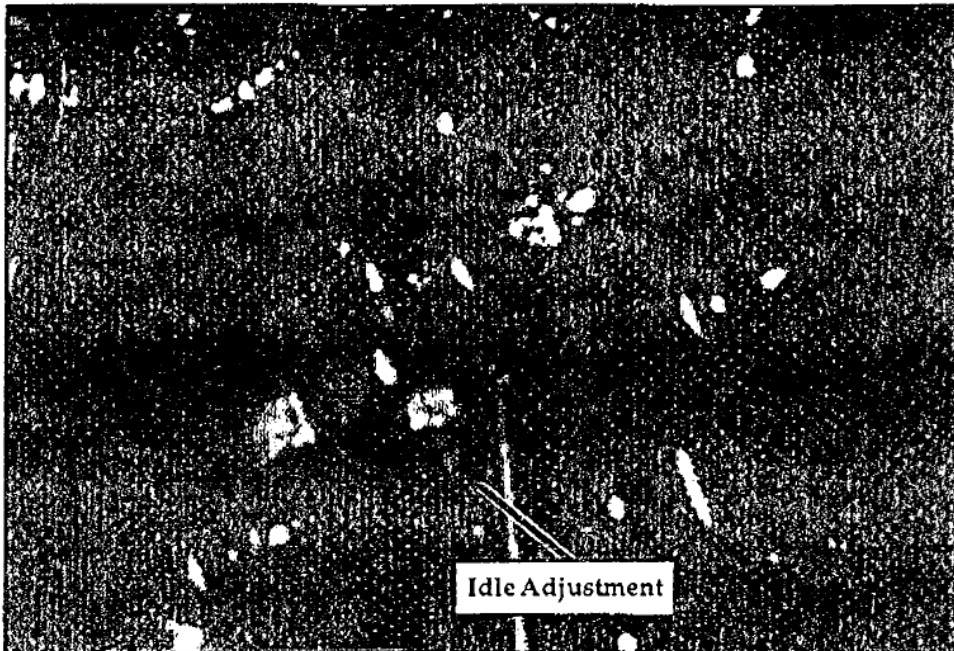

Figure 1
PROCEDURE: Read all instructions thoroughly and refer to figure 1 before starting.
1. Using a strobe R.P.M. light, adjust engine low idle to 1100-1200 R.P.M. (Refer to Figure 1 and the instructions for your strobe lamp).